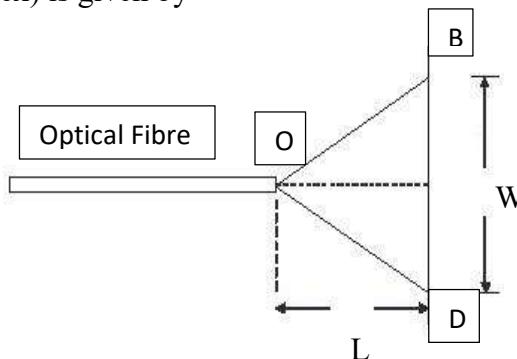

Figure 8.1
As shown in figure 8.1, light from the end of the optical fiber 'A' falls on the screen BD. Let the diameter of light falling on the screen BD=W, Let the distance between end of the fiber and the screen AO=L. knowing W and L, the N.A can be calculated and substituting this N.A value in Eq (2), the acceptance angle ' θ ' can be calculated.